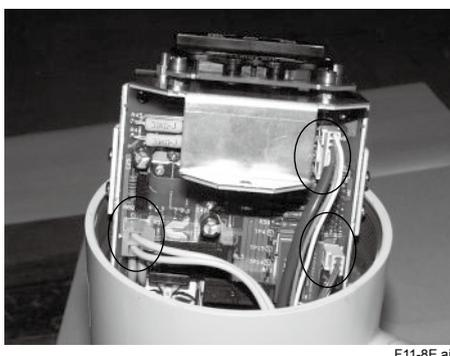

Figure 11.8 Locations of Connectors
- (4) Disconnect the three connectors from the printed-circuit board, as shown in Figure 11.8, by holding the connector housing. Do not pull the lead wire out to remove the connectors, otherwise, disconnection may result.